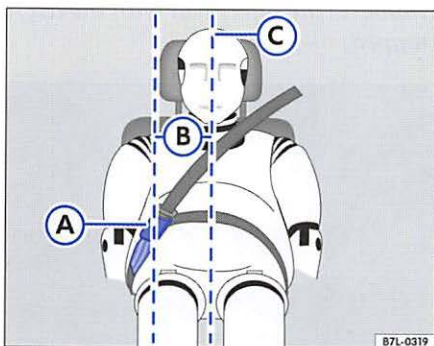

Fig. 18 Measurements
- Ⓐ Front edge of buckle ⇒fig. 18
- Ⓑ Distance of buckle and body centerline, (less than 6 inches (15 cm) ⇒fig. 18
- Ⓒ Body centerline ⇒fig. 18
- Never use the extender if the distance ⇒fig. 18 Ⓑ between the front edge of the extender buckle Ⓐ and the occupant's body centerline Ⓒ to be less than 6 inches (15 cm).